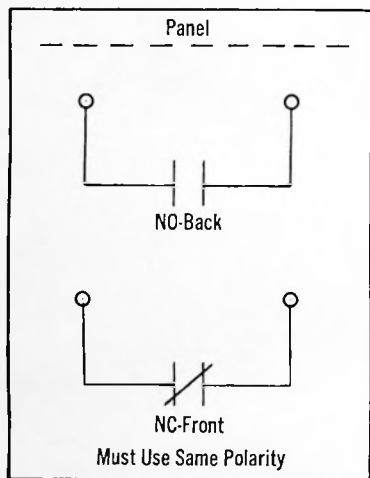

Figure 3 - Internal Wiring Diagrams
5. Internal wiring shown in Figure 3.